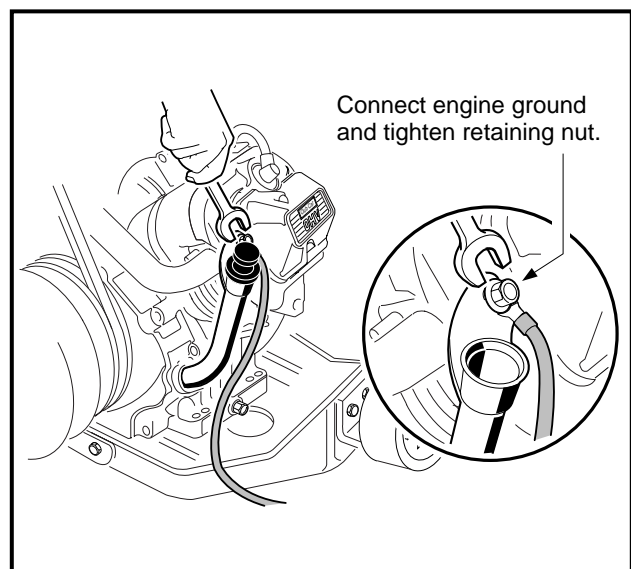

Figure 16-97 Engine Ground
27. Attach the ground wire to the mounting screw on the oil filler tube mounting bracket and tighten to 50 in-lb (5.7 N·m) **(Figure 16-97, Page 16-39)**.